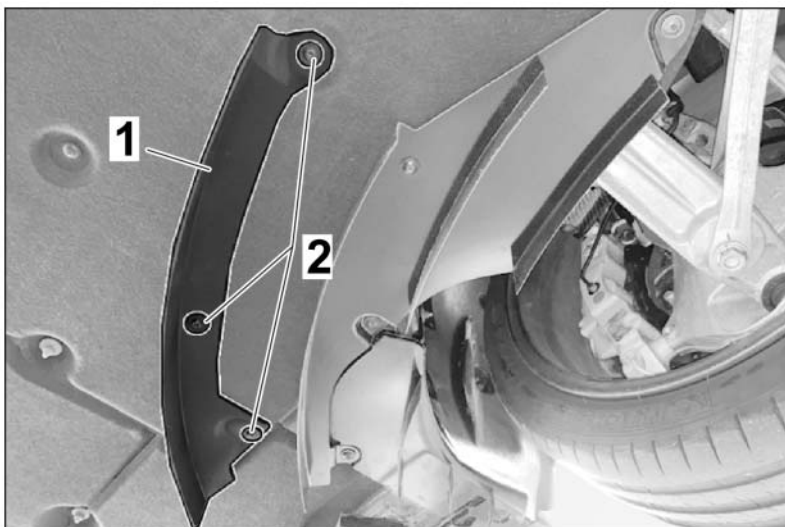

Figure 39
- 5.5.2 Fasten the air control element (inside) with ST 4.8 x 19 screws in the front/rear to the underbody cover (front) (⇒ Figure 39).